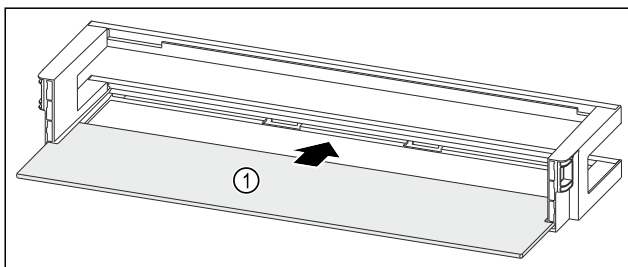

*Fig. 93 Door rack with bottle holder and shelf*
- Slide the bottle holder *Fig. 93 (1)* to the side as far as the recess.
- Remove the bottle holder *Fig. 93 (1)*.
- Remove the shelf *Fig. 93 (2)*.